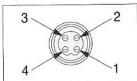

Fig. 3 Microphone plug pin numbers viewed from rear of pin receptacle.
5. The wires must now be soldered to the pins as indicated in the above wiring tables. If a vise or clamping tool is available it should be used to hold the pin receptacle body during the soldering operation, so that both hands are free to perform the soldering. If a vise or clamping tool is not available, the pin receptacle body can be held in a stationary position by inserting it into the microphone jack on the front panel. The numbers of the microphone plug are shown in Fig. 3, as viewed from